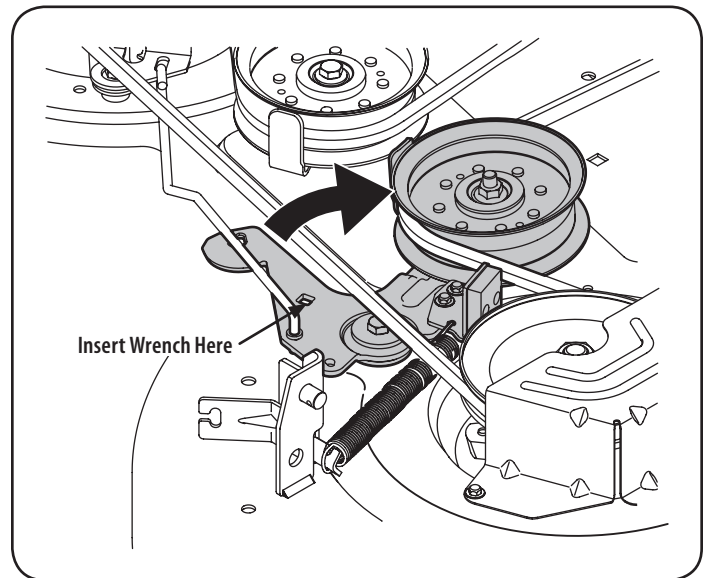

Figure 22
6. Working on the right side of the tractor, insert a  $\frac{3}{8}$ " drive ratchet wrench, set to tighten, into square hole found on the idler bracket. See Figure 22.
7. Use the wrench to pivot the deck drive pulley forward. See Figure 22.